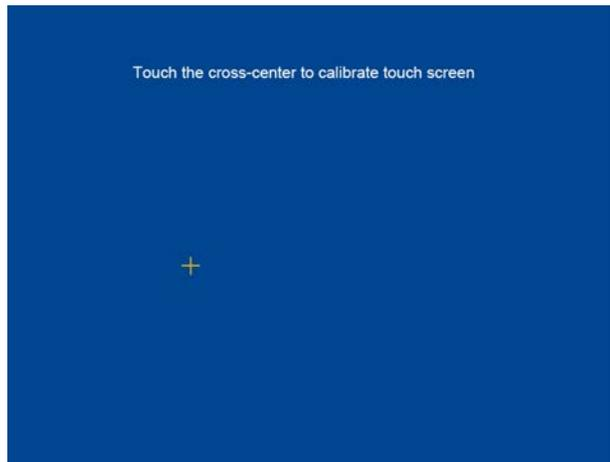

Figure 7-10
- b. Press the  key or touch "Screen Calibration" (See figure 7-10).